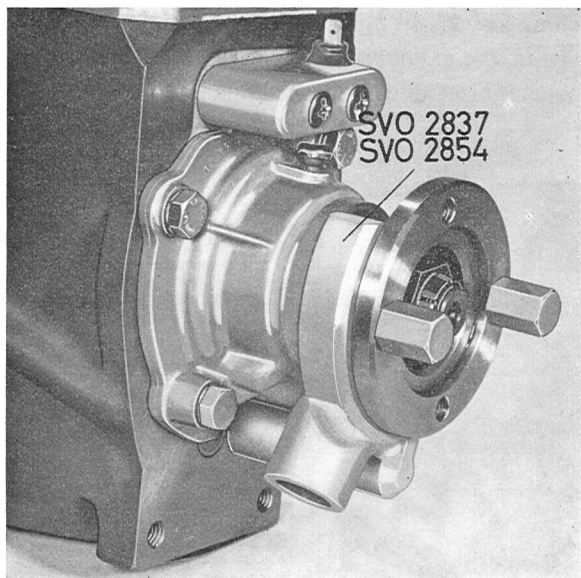

Fig. 4-22. Flange counterhold
2. Slacken the flange nut. Use 2854 as a counterhold for cars with B20 A, B and F and 2837 for cars with B 20 E engines, see Fig. 4-22.